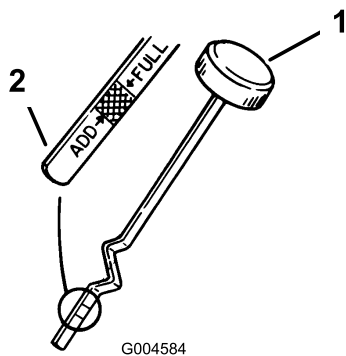

Figure 21
9. Unscrew the oil dipstick and wipe the metal end clean (Figure 21).